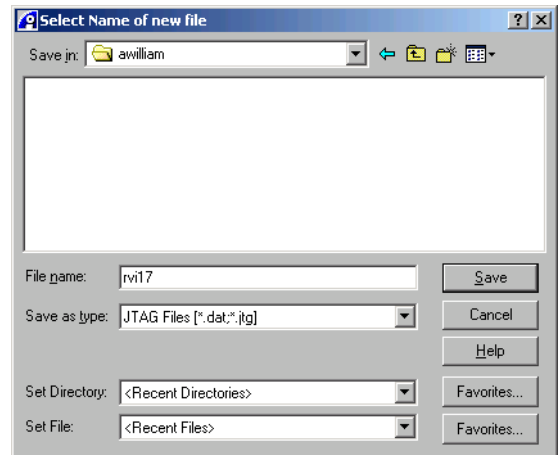

Figure B-2 Selecting where to store the new configuration file
7. Click **Empty** to create an empty configuration file. The Select Name of new file dialog box appears, as shown in Figure B-2.